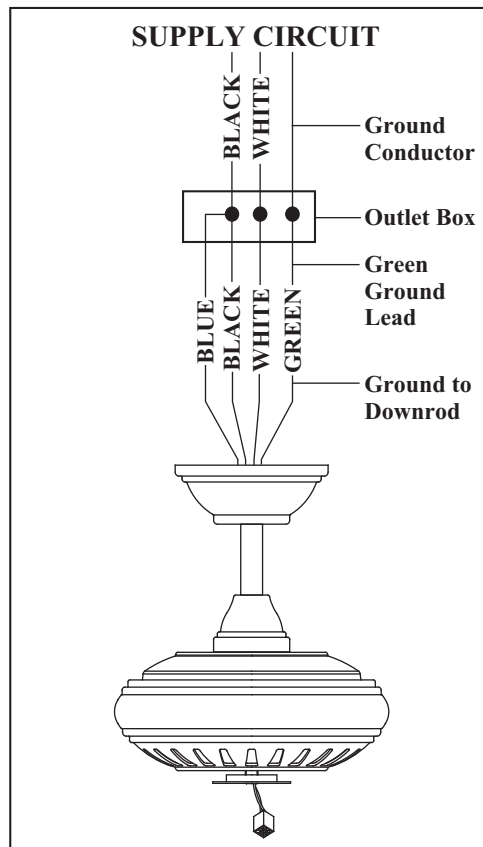

Figure 12
1. Connect the ground conductor of the 120V supply (this may be a bare wire or a wire with green colored insulation) to the green ground lead(s) of the fan (Figure 12).
2. Connect the fan motor white wire to the supply white (neutral) wire using a wire nut. (Figure 12)
3. Connect the fan motor black wire to the supply black (hot) wire using a wire nut (Figure 12).